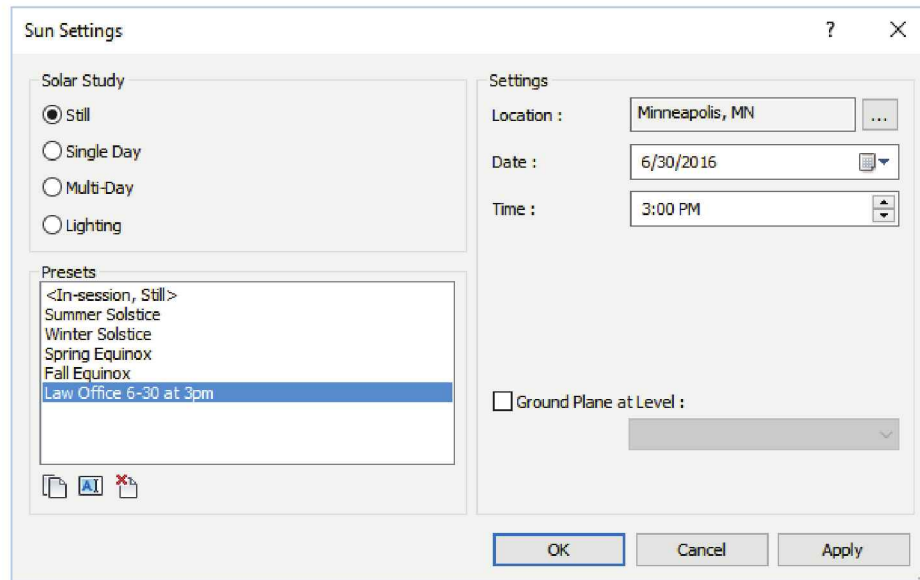

FIGURE 15-2.14 Sun Settings dialog
35. Make the following changes (Figure 15-2.14)
39. Place three trees as shown in **Figure 15-2.14**. One tree will be made smaller starting in Step #41.
51. In the *Lighting* section, set the *Sun Setting* to <Still> **Law Office 6-30 at 3pm.** (This relates to the Figure 15-2.14 settings.)
Looking back at Figure 15-2.14, you would click *Duplicate* again and provide additional names. The names would then be available from the *Sun* drop-down list in the *Render* dialog box.